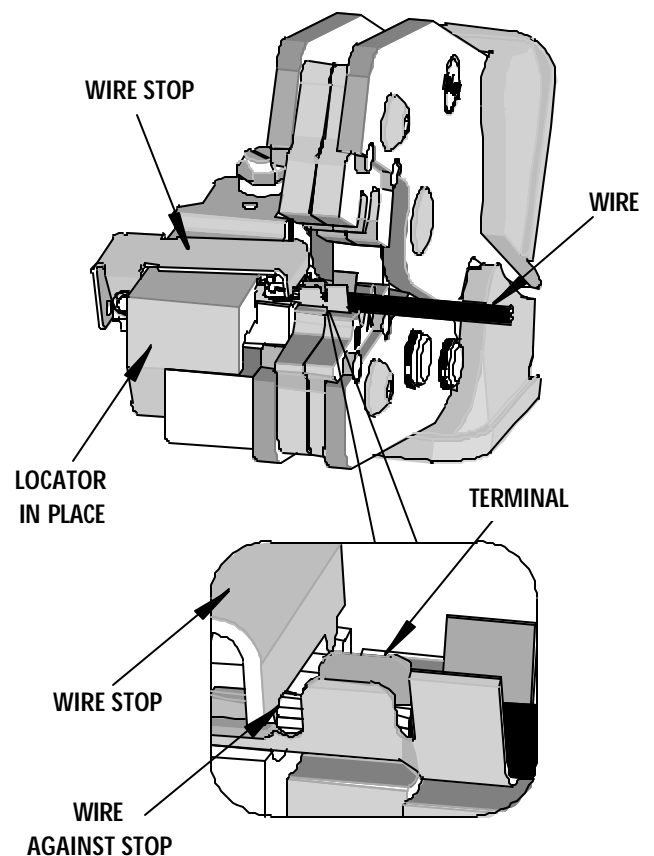

Figure 3
5. Insert the proper wire over the terminal. Gently touch the wire stop with the end of the wire. See Figure 3.